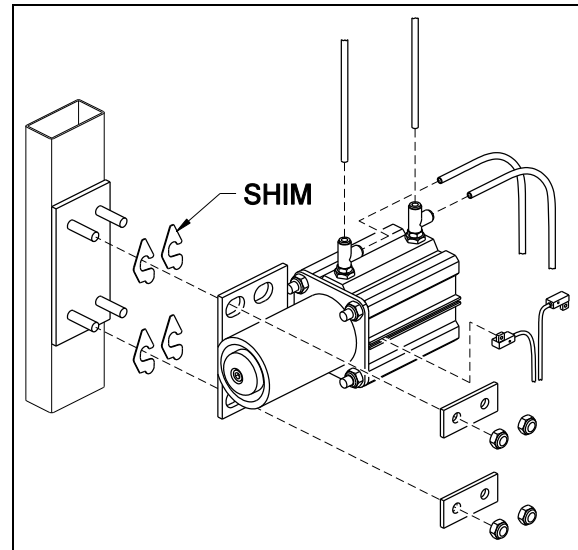

FIGURE 12 : LOCKING PIN INSTALLATION
5. Align the locking pin with the slide-out receptacle by putting shims between the locking pin base and the vehicle structure (figure 12). The shims must be inserted with a sliding fit. Make sure to put as many shims on the upper studs as on the lower studs to keep the locking pin base parallel to the vehicle structure.
4. Note the pneumatic tubing position, then disconnect the tubing and the electric cable from the locking pin assembly (figure 12).
6. Remove the sensor switches. Unscrew and remove the locking pin unit. Keep the shims for further installation (figure 12).